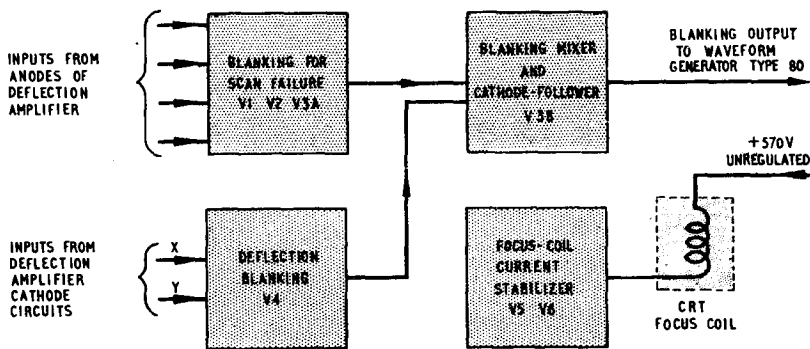

Fig. 3. Block diagram of blanking unit
7. Reference to fig. 3 shows how the unit may be broken down into four distinct groups, namely:—